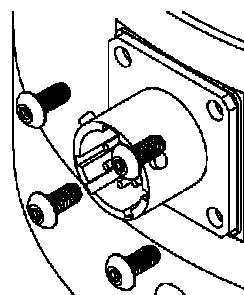

Figure 7 - Remove the #4-40 x 1/4" Button Head Cap Screws
1. Remove the #4-40 x 1/4" button head cap screws from the connector using a 1/16" hex wrench as shown in Figure 7.